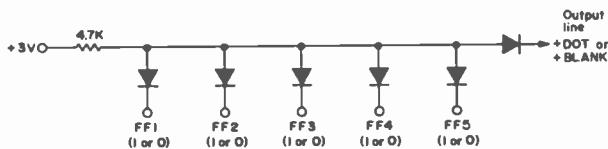
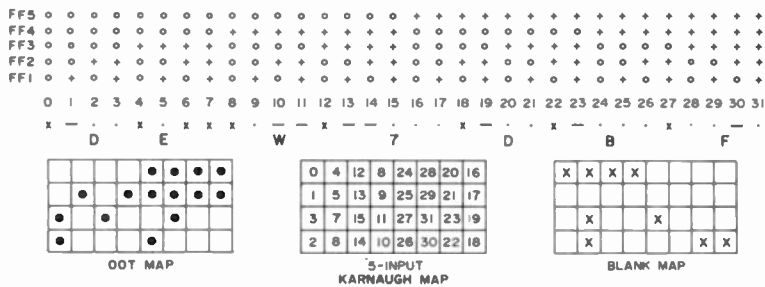
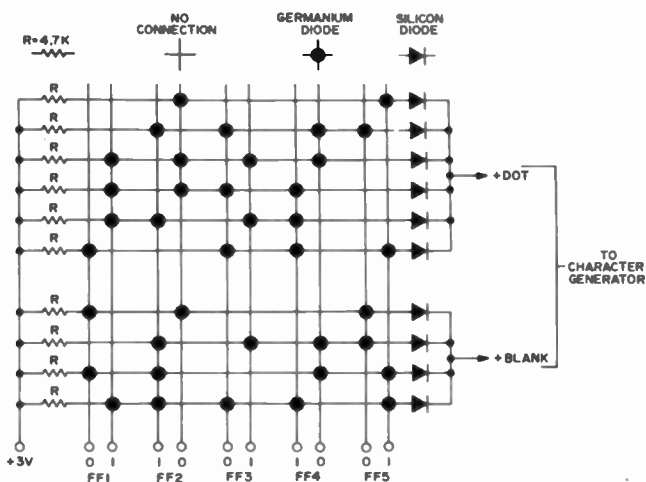
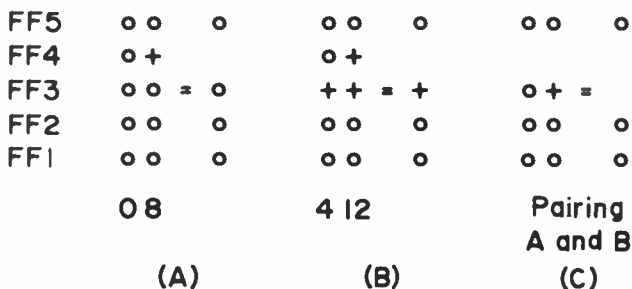

Fig. 2-12. Diode decoder for program counter.
Fig. 2-13. Using the Karnaugh map.
Fig. 2-14. Diode read-only memory matrix for "DE W7DBF."
Fig. 2-15. Actual reduction procedure.
Fig. 2-12 shows the method for decoding the program counter. The five terminals marked FF1 through FF5 are connected to either the 1 or 0 side of the respective flip-flop. If *any* of the five connections is low, then the whole common line is low. The only time the common line can be high is when all five input connections are high. For any given connection, this will occur exactly once during each program counter cycle. This type of diode decoder is often called an *and* gate since it has a high output only when all inputs are high.
In the example of Fig. 2-13, the desired code stream has 15 dots and 9 blanks. If we employ a separate diode
For our purpose, a graphical reduction technique known as a *Karnaugh map* will be employed. Figure 2-13 illustrates the process for the code stream DE W7DBF. The polarity of the I output levels of flip-flops FF1 through FF5 are shown as the program counter steps from 0 (all FFs clear) to state 31 (all FFs set). The sample code stream begins with a blank and has three blanks separating the DE from the W.
is presented, flanked on the left by the DOT map and on the right by the BLANK map for the desired code stream. Reduction is accomplished by "folding" the map about any of the dividing lines and pairing the marks (dots or blanks) which overlap. For example, folding the DOT map about the vertical centerline pairs dot 5 with dot 21, and dot 9 with dot 25, and dot 15 with dot 31. Successive pairing, then pairing pairs, etc. allows a reduction from the original 144 diodes to a total of 48 diodes arranged as shown in Fig. 2-14. Note that in Fig. 2-14, the 0/1 flip-flop lines are reversed for FF2 and FF4. This reversal materially simplifies printed circuit construction.
As an example of pairing, consider the blanks in positions 0, 4, 8, and 23 of the BLANK map of Fig. 2-13. If the map is folded about the second vertical line (the one separating positions 4 and 12), then blank 4 pairs with blank 12, and blank 0 pairs with blank 8. If we fold again, then all four blanks coincide with each other. This is illustrated in Fig. 2-15. In Part A, the program counter states for positions 0 and 8 are compared. They differ in exactly one FF position (FF4) as all pairs must. A single diode decoder of the type shown in Fig. 2-12 could get
Part B of Fig. 2-15 presents the same comparison for blank 4 and blank 12, and again they differ only in FF4. In part C, a comparison of the 0/8 with 4/12 pairs shows that these differ only in FF3. Thus, if a three-input diode decoder of the type presented in Fig. 2-12 were connected to FF1 (0), FF2 (0), and FF5 (0), it would give a +BLANK for all four desired program counter states (0, 4, 8, and 12). Without this reduction, 24 diodes (six for each blank) would have been required rather than the four actually required. This diode decoder may be found in Fig. 2-14 as the first line in the +BLANK group.
The foregoing example illustrates the use of a Karnaugh map. The actual reduction is performed as in Fig. 2-15. It should be noted that some states will not pair at all, such as blank 27 in Fig. 2-13. To pick up this blank, a full five-input diode decoder is required. From Fig. 2-13, we see that for blank 27, the program counter is in state “++0++” and the resulting diode decoder can be found in Fig. 2-14 as the bottom diode line.
The rule when pairing states is that the two program counter states can differ in exactly one flip-flop position. All other positions must agree, including any omitted connections as in Fig. 2-15, part C. If there is disagreement in more than one FF position, then these two states do not pair.
For example, the diode count for the code stream in Fig. 2-13 is 48. If just the DE is slid one count to the right, a new code stream is formed which starts with two blanks, and has two blanks between the DE and W. The diode count for this new stream is 55. If this new stream is shifted two positions to the left, so that the two leading blanks become trailing blanks, then the diode count becomes 85. These effects are unpredictable, and for complete optimization each code-stream version must be reduced separately, and the results compared. This greatly increases the already great tedium of such calculations.